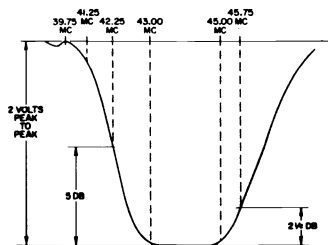

Figure 9 - IF Response, 1st IF Amp. Grid to 2nd Det.
| 3. | Oscilloscope to T.P. (B) and sweep generator at 43 MC to T.P. (D) Couple CW marker generator to sweep generator. | T201, T202, T203, slight retouching may be necessary. See Figure 9 for typical response curve. |